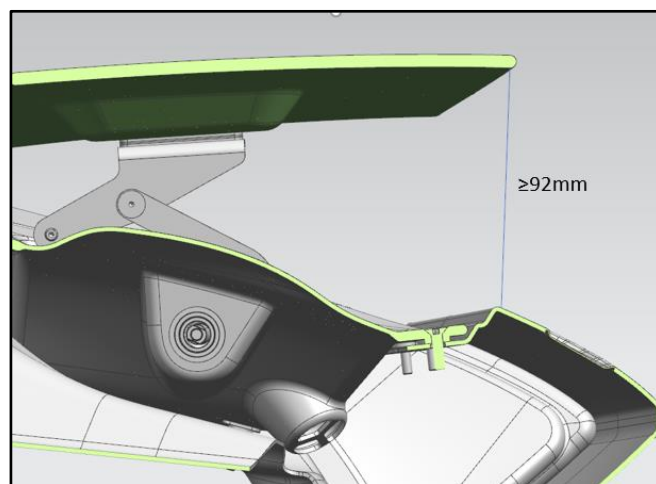

Figure 6
8. The stage 1 spoiler height results recorded at step 2 and step 7 should not be less than 92mm. (Refer to Figure 6.)